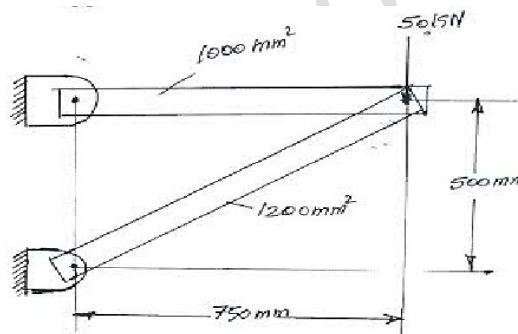

Fig.1
3. (a) For the truss shown in Fig.1 below, find the assembled stiffness matrix.